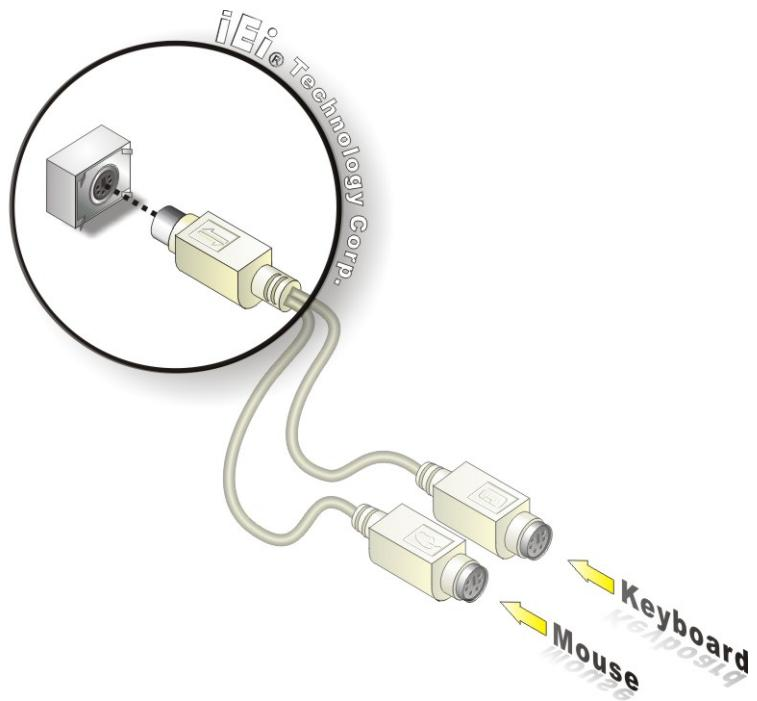

Figure 4-18: PS/2 Keyboard/Mouse Connector
Step 2: Insert the keyboard/mouse connector. Insert the PS/2 connector on the end of the PS/2 y-cable into the external PS/2 connector. See Figure 4-18.